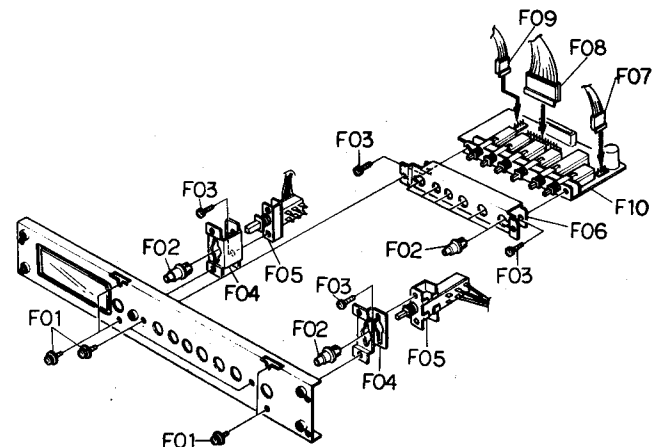

Fig. 7.4
Refer to Fig. 7.4. Remove Front Panel and Case Covers referring to item 7.1. Remove F01, then F02 (Push Button Ass'y). Remove F03, F07, F08, F09, F04, F05 (Push Switch) and F06, then F10 (Switch P.C.B. Ass'y).